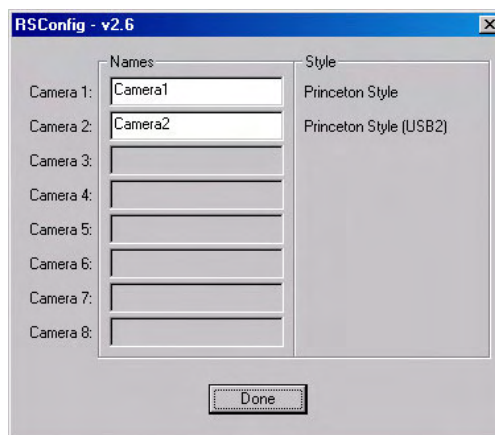

Figure 161. RSConfig dialog box: Two Camera Styles
4. When the RSConfig dialog box (Figure 161) appears, you can change the camera name to one that is more specific or you can keep the default name "Camera2". When you have finished, click on the **Done** button. You will next edit the generated PVCAM.INI file.